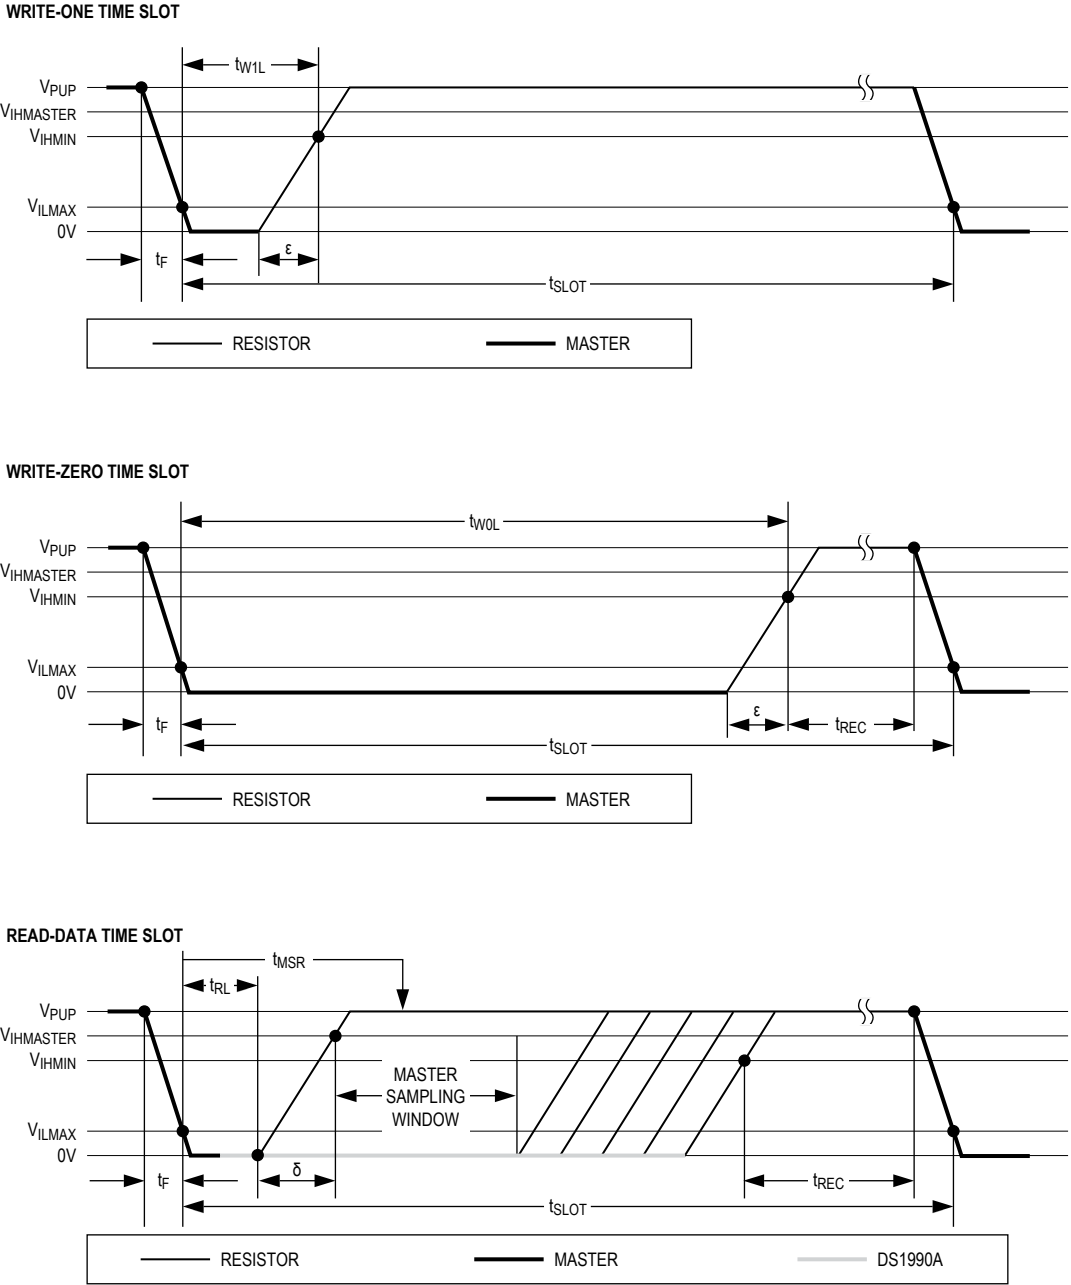

Figure 7. Read/Write Timing Diagram
- Note 12:**  $\epsilon$  in Figure 7 represents the time required for the pullup circuitry to pull the voltage on IO up from  $V_{IL}$  to  $V_{IH}$ . The actual maximum duration for the master to pull the line low is  $t_{W1LMAX} + t_F - \epsilon$  and  $t_{W0LMAX} + t_F - \epsilon$ , respectively.
- Note 13:**  $\delta$  in Figure 7 represents the time required for the pullup circuitry to pull the voltage on IO up from  $V_{IL}$  to the input-high threshold of the bus master. The actual maximum duration for the master to pull the line low is  $t_{RLMAX} + t_F$ .
Data communication with the DS1990A takes place in time slots that carry a single bit each. Write time slots transport data from bus master to slave. Read time slots transfer data from slave to master. The definitions of the write and read time slots are illustrated in Figure 7.